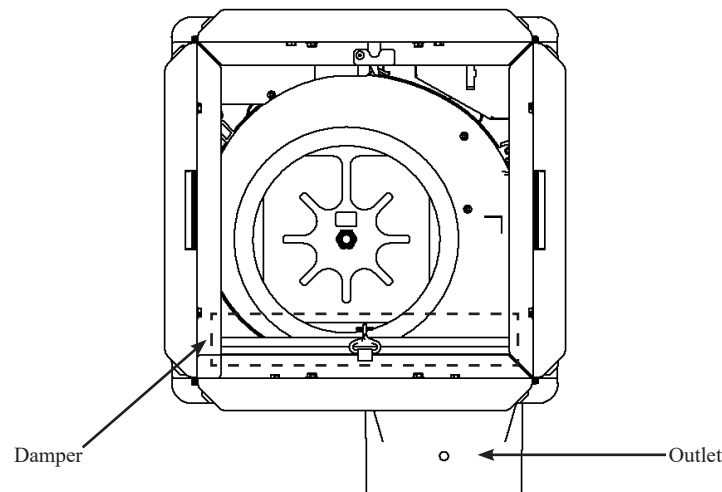

Fig. 3 - Damper Installation Direction
6. The installation direction of the damper should be consistent with the fan outlet. (Refer Fig. 3)